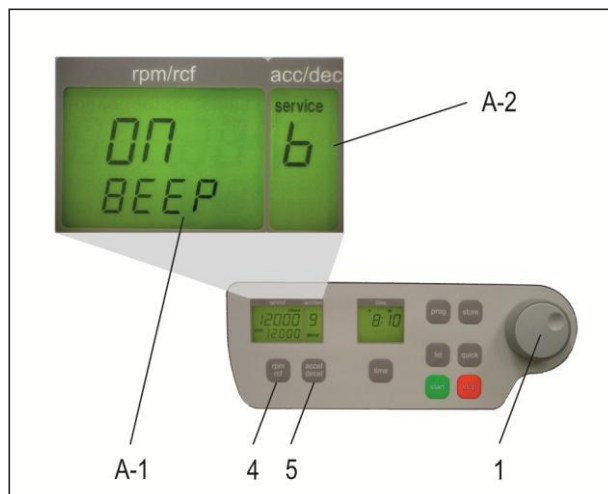

Figure 8
Proceed as illustrated, under point 1.8.2, to enter this program mode, press the key, "accel/decel" (5). In the display, "accel/decel" (A-2) flashes the word, "service". Select the letter "b" with the adjustable knob (1). As a result, appearing in the display, "rpm/rcf" (A-1), the word "ON/BEEP". After pressing the key, "rpm/rcf" (4), turn the keyboard sound (On) or (Off), with the adjustable knob (1), (see Figure 8).